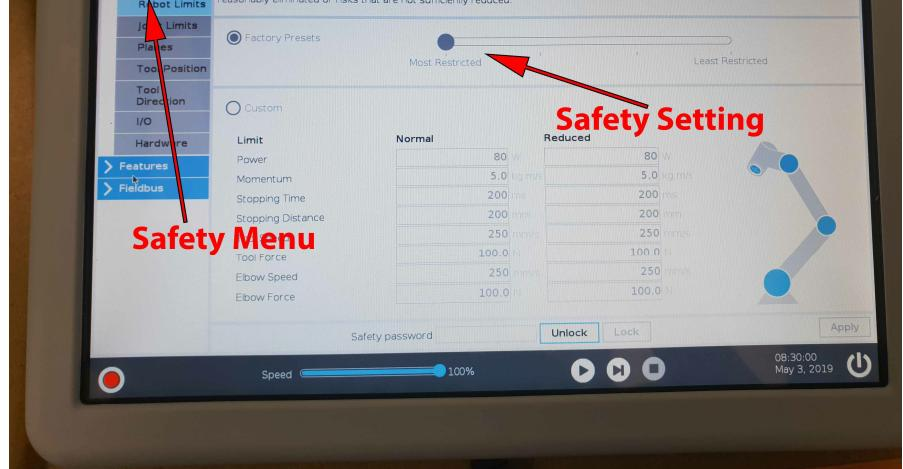

Figure 3 The INSTALLATION Menu
10. Go to **INSTALLATION** tab and press the **Safety** dropdown menu on the left-hand side of the screen. Check whether the Safety setting is set to **Most Restricted** and **Factory Presets** radio button is selected. See section II-13.1.1 of UR5e User Manual for more information. See Figure 3